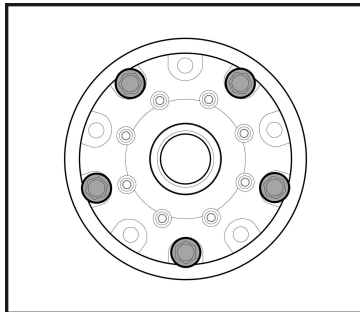

Fig. 17
**2.6** Install five ring gear bolts and pre-tighten them to draw the ring gear snugly against the differential carrier. Do not apply threadlocker at this stage, as these bolts will be removed later. (Fig. 17)